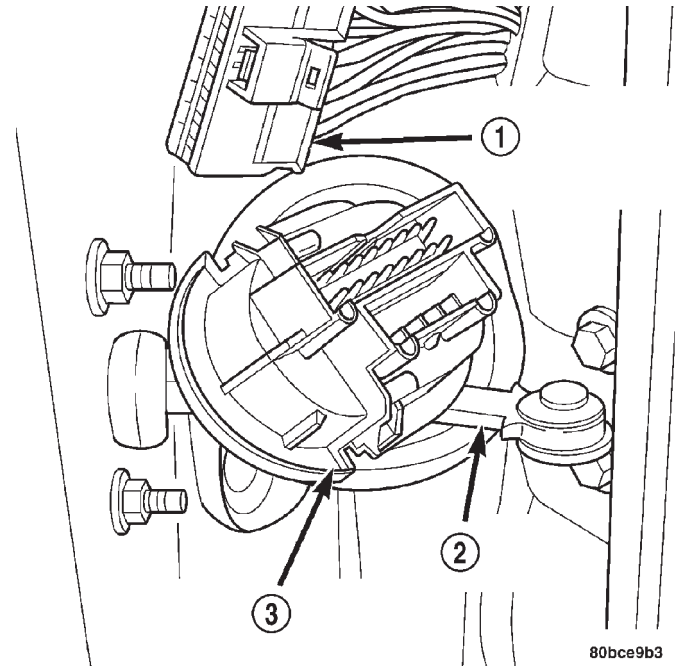

Fig. 10 A-Pillar Door Harness Connector
- (7) Remove steering column. Refer to Group 19 Steering, Steering Column Removal and Installation.
- (8) Remove left and right instrument panel end-caps.
- (9) Remove left and right cowl side panels.
- (10) Remove center console. Refer to Group 23 Body, Center Console Removal and Installation.
- (11) Depress the sides of the Data Link Connector (DLC) and remove from instrument panel reinforcement.
- (12) Remove four bulkhead instrument panel retaining screws.
- (13) Remove two bolts on top of the brake pedal support bracket.
- (14) Remove two center support mounting bolts.
- (15) Remove left and right A-pillar mounting bolts, two on each side.
- (16) Disconnect right side antenna connector.
- (17) Remove left and right A-pillar door harness connectors (Fig. 10).